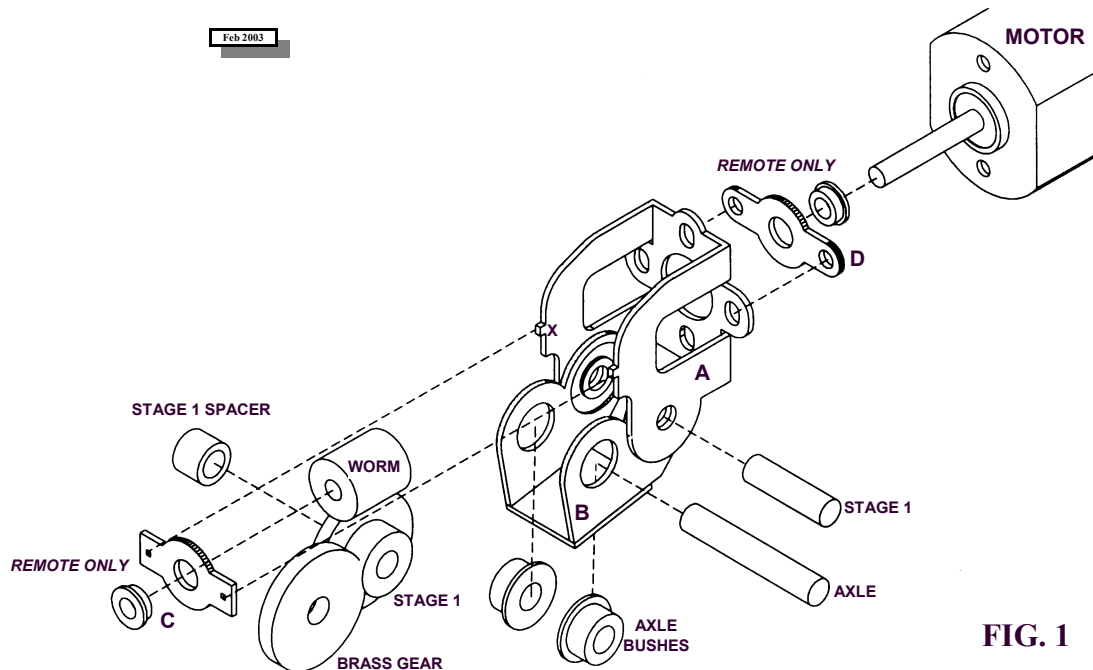

FIG. 1
Study Figs 1 and 2. Before cutting the gearbox etch from the fret, progressively ream out each of the **holes** to the sizes shown in Fig 2. Components should be offered up until they a tight push-fit in their holes. Once the gearbox is assembled, the shafts are fixed but the gears are free to revolve. Remove burrs by inserting the tip of a drill bit (of much larger diameter than the hole) and gently rotating it between your fingers.
Now cut the etches from the fret with a heavy blade and trim off the tabs, taking care not to accidentally remove any locators. **Fold up the gearbox** (A) as shown in Fig. 1, using flat nosed pliers to grip the motor mounting plate near the bend lines when doing so. This will prevent the plate from accidentally buckling across the hole centres. All bends are 90°, with the bend lines on the inside of the gearbox. Add fillets of solder to the inside of the folds to strengthen the gearbox. If you are using the **remote attachments**, open out the small location holes in the front attachment (C) so they fit snugly over the locators (X) on the main gearbox etch, and then solder it in place. Now fold up the final drive carriage (B) and strengthen with solder, as above. De-flux the gearbox and carriage by scrubbing them with household cleaner, then rinse and allow to dry. If they are likely to be visible then **paint** them black.
Refer to Fig. 1. The stage 1 double gear will be one of three types - 15/10T (30:1), 20/10T (40:1) or 27/10 (54:1) - depending on the overall reduction ratio of the gearbox. The **final drive carriage** can be mounted facing backward or forward, depending on the configuration you require. Fit the **stage 1 gearshaft**, the double gear (according to ratio) and the spacer bush into the gearbox. Sight through the opening in the gearbox sides to check the mesh with the worm - there should be daylight between the gear and the worm, but avoid having too much backlash. Some modellers may prefer a deeper mesh (especially for a heavily loaded loco) but avoid 'bottoming out' the gears. If the mesh is too shallow, the gears may wear or even come out of mesh. If necessary, loosen the motor fixing screws, adjust the mesh and then lightly glue the shaft in place at both ends.